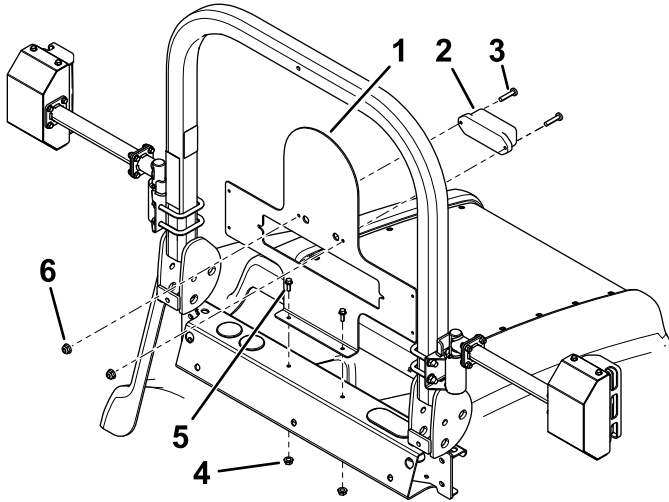

Figure 8
2. Install the light plate and center rear light (Figure 8).